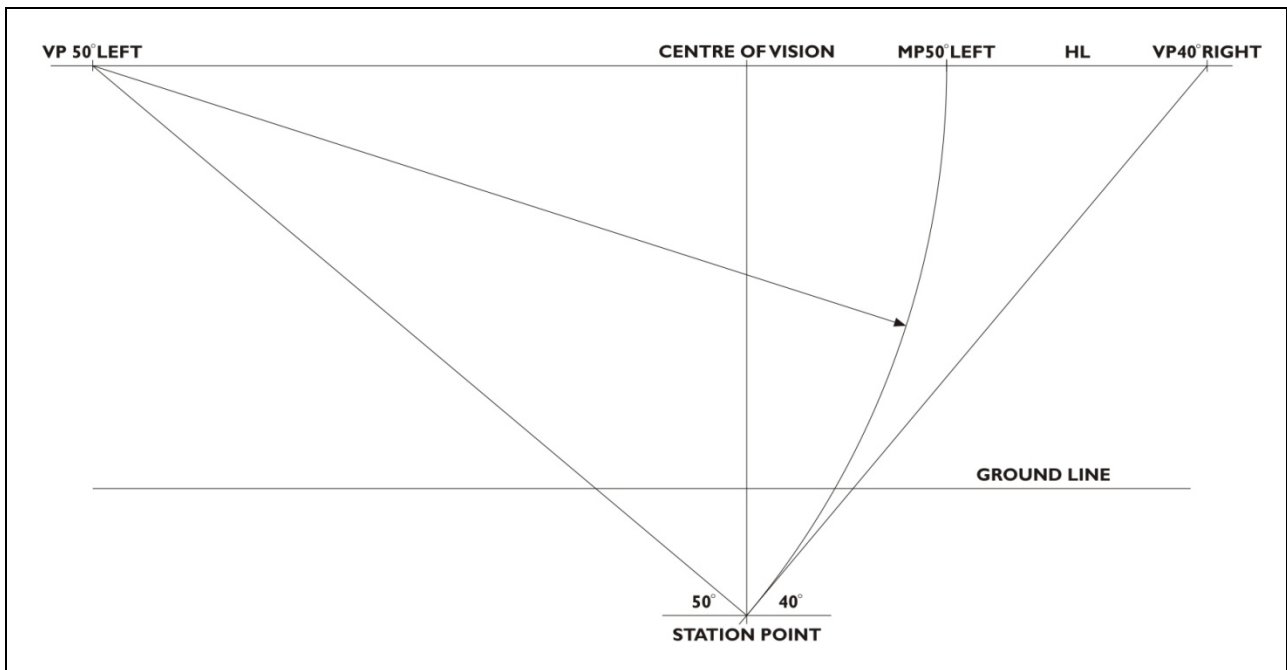

Figure 3.3 Two-point perspective establishing measuring-points
2. With the compass point on VP50° Left draw an arc from the Station Point up to the Horizon Line and mark this point MP 50° Left. Refer to Figure 3.3.